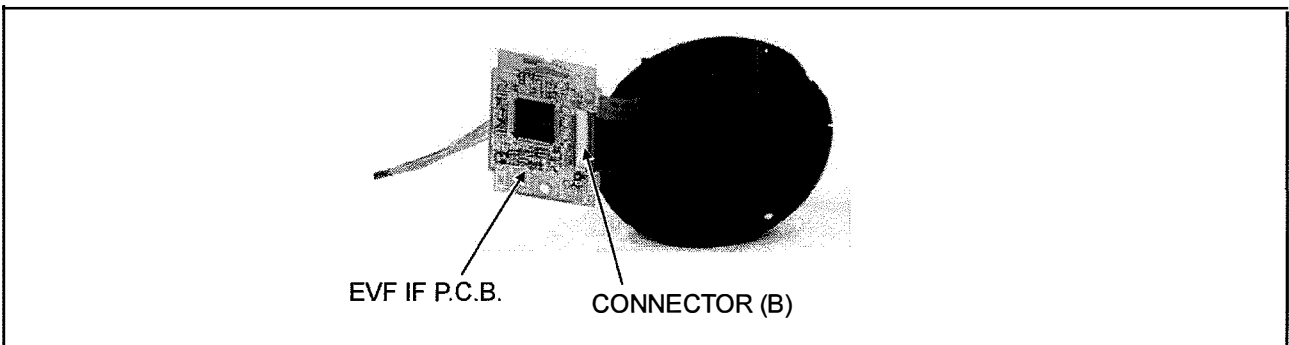

Figure 12-6
11. Disconnect a connector (B) and remove the EVF IF P.C.B. as shown in figure 12-6.